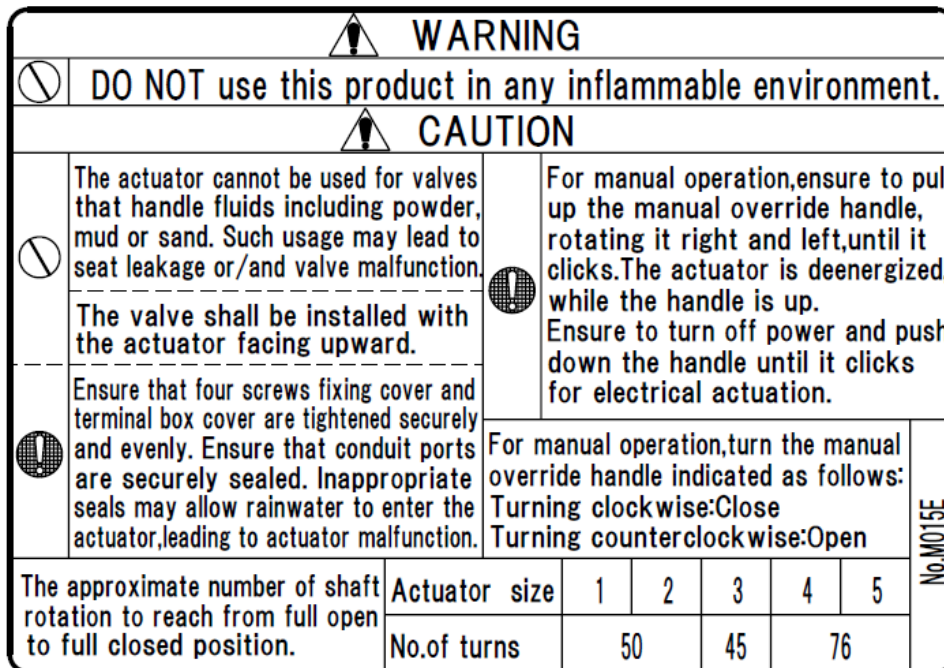
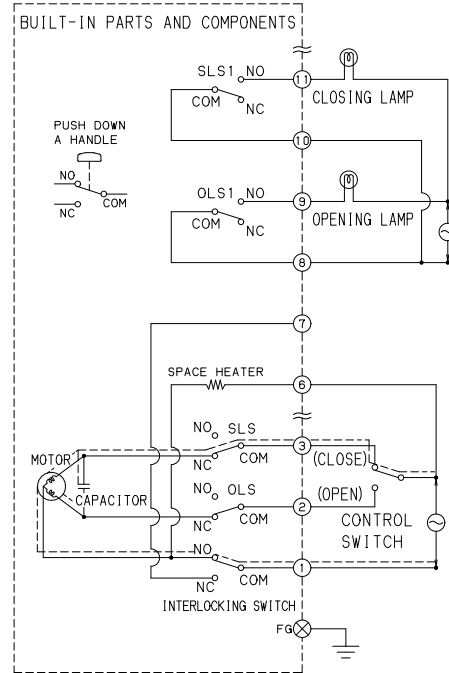
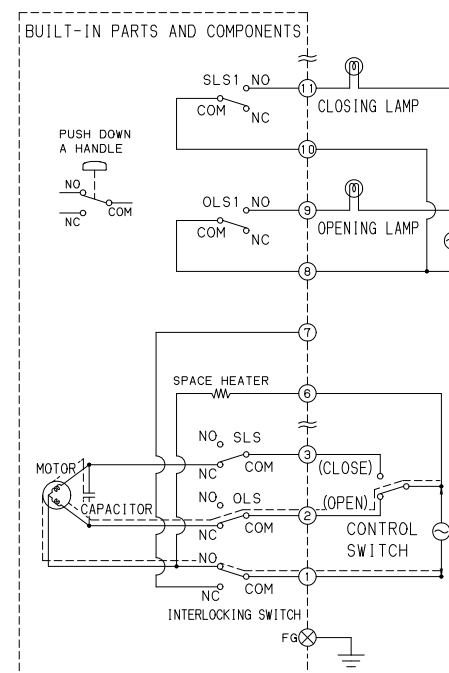

Fig. 5 Caution plate
Fig. 7
Fig. 9
6.2 Actuators are also provided with caution plates, which give warnings and cautions for safe and trouble-free handling of actuators in the field. Refer to Fig. 5 for an example.
(1) From the condition as shown in Fig.5, switch the operation switch to the closing side and pass a current ① through ③ to activate the circuit as follows: ①→interlock switch→motor→SLS→③. Then the valve will rotate clockwise being viewed from the top of the actuator housing cover (Fig. 7)
(3) From the condition as shown in Fig.7, switch the operation switch to the opening side and pass a current ① through ② to activate the circuit as follows: ①→interlock switch→motor→OLS→②. Then the valve will rotate counterclockwise being views from the top of the actuator housing cover. (Fig. 9)
(4) The actuator shaft rotates and the opening cam breaks NC contact of OLS to stop the motor drive. At the same time, a circuit contacts between ⑧ and ⑨ of OLS1 limit switch to light an opening indicator lamp. (Fig.7)
(1) From the condition as shown in Fig.9, switch the operation switch to the closing side and pass a current ②(+)